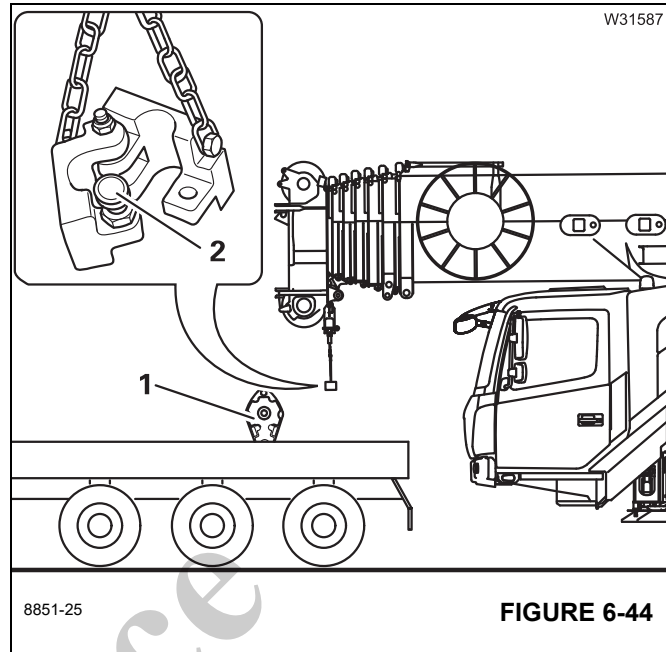

FIGURE 6-44
- Detach the anti-two block switch weight (2), (Figure 6-44) from the hoist rope. Refer to *Removing the Anti-Two Block Switch Weight.*, page 6-39.